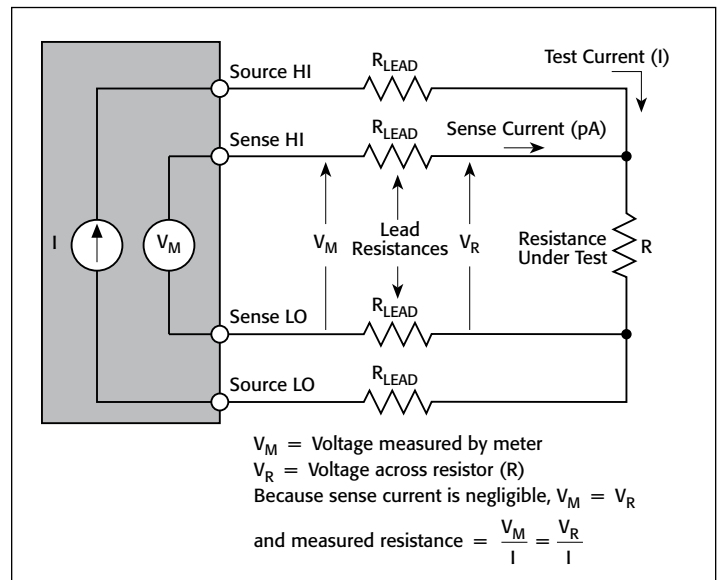

Figure 4. Four-wire resistance measurement with a SMU instrument
Due to the limitations of the two-wire method, the four-wire (Kelvin) connection method shown in **Figure 4** is generally preferred for low resistance measurements. With this configuration, the test current (I) is forced through the test resistance (R) through one set of test leads, while the voltage (V_M) across the DUT is measured through a second set of leads called sense leads. Although some small current may flow through the sense leads, it is usually negligible and can generally be ignored for all practical purposes.